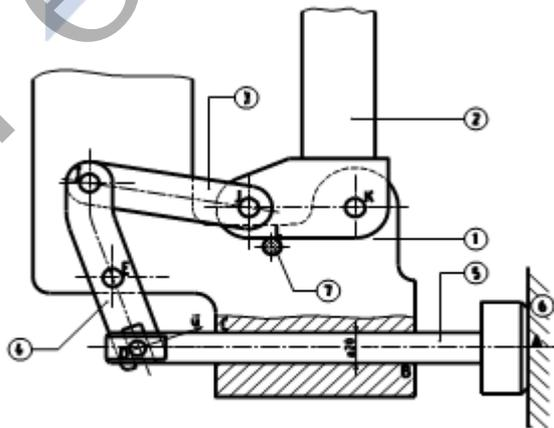

Figure 3
The **figure 3** below represents a self-locking device used in a manufacturing workshop
- The system occupies the position in the figure 3 above.